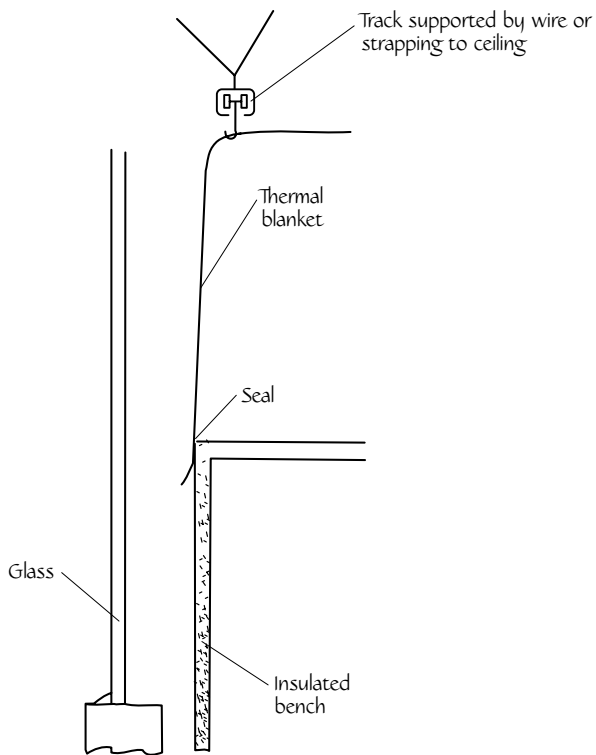

Figure 6-28. Edge seals keep heat inside the thermal blanket
- Make provisions for sealing the sides (figure 6-28, page 92).